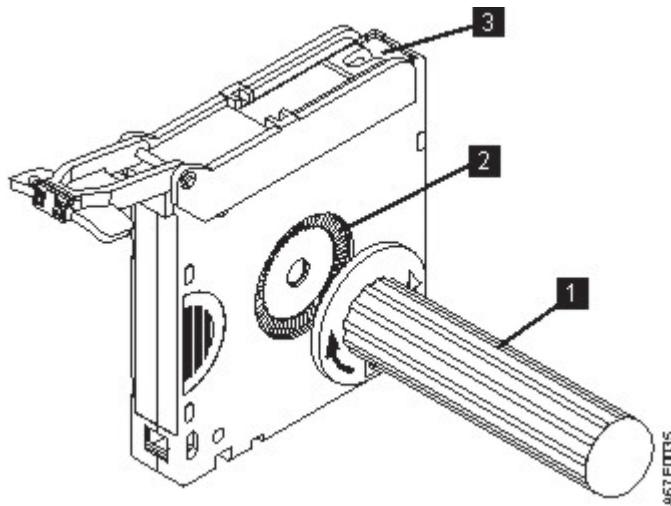

Figure 107. Winding the tape out of the cartridge
2. To find the end of the tape inside the cartridge, attach the cartridge manual rewind tool (1 in Figure 107 on page 233) to the cartridge's hub (2) by fitting the tool's teeth between the teeth of the hub. Turn the tool clockwise until you see the end of the tape inside the cartridge. Then, slowly turn the rewind tool counterclockwise to bring the tape edge toward the cartridge door (3).